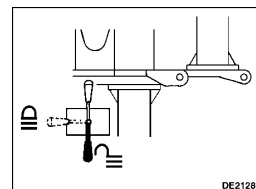

fig. 17
- open the tap **R1C** of the valve of the control ram for the tiltable support (for the closed or opened position see fig. 17);